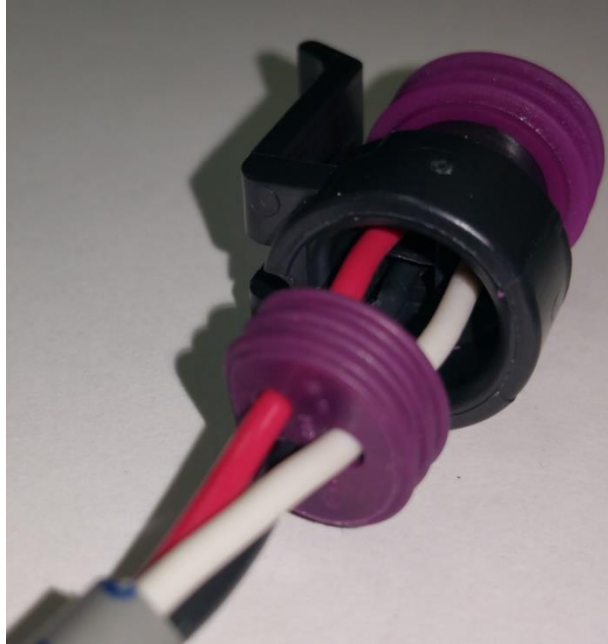

Figure 6
- 3) Slide the seal out of the rear of the connector (Figure 6).